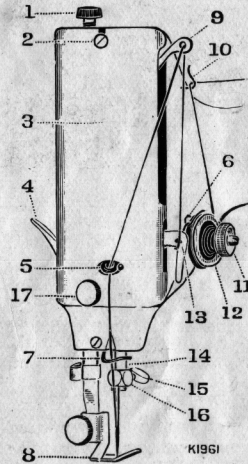
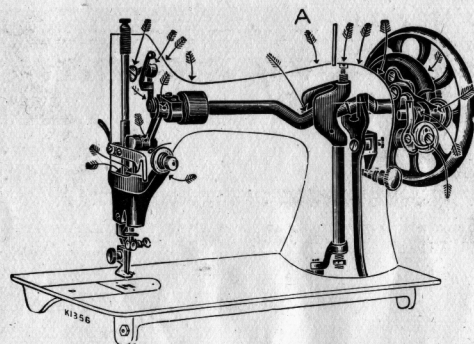

Fig. 5.
Fig. 15.
(See Fig. 5).
Loosen the balance wheel and place a reel of thread on the spool pin. Pass the end of the thread through the wire guide (10, Fig. 5), then into the lower eyelet (5) of the thread guide from below, and into the notch (2) at its top. Now thread the bobbin by passing the thread through the hole in its left disc from the inside, and with the left hand press it on to the bobbin winder spindle (1) and hold. Then with the right hand, turn the small pulley (6) until the hole in the right disc of the bobbin is engaged by the pin in the spindle shoulder. Press the pulley against the ledge of the balance
Raise the take-up lever (9, Fig. 5) to its highest point by turning the balance wheel towards you, and lift the presser foot; then move the material back and to the left, and sever the threads by passing them over the thread cutter above the presser foot. Leave the ends of the threads a few inches long under the presser foot.
For ordinary family sewing it is seldom necessary to change the pressure on the material. If sewing fine silk or flimsy material, lighten the pressure by giving the thumb screw (1, Fig. 5) two or three turns upwards. If it be found necessary to increase the pressure, give the thumb screw a few turns downwards.
All moving parts in contact must be covered with a film of oil **and not allowed to become dry**. Oil should always be applied at the points indicated by arrows in Figs. 15 and 16, a drop of oil being sufficient at any place. To oil the needle-bar mechanism, remove the face plate (3, Fig. 5) by unscrewing the knurled screw (17, Fig. 5) and loosening the small screw (2, Fig. 5). **It is most important that oil should be applied at the point marked "A" (Fig. 15) when the take-up lever (9, Fig. 5) is at its lowest point.** When oiling, insert the oil can spout well into the oil holes. Apply a drop of oil to the small piece of felt lubricating the oscillating hook and to the rollers at the right of the hook shaft. There are also two holes in the hand attachment to which oil should be applied occasionally.
The thread take-up spring (6, Fig. 5) being broken.
**Stitches Looping.**—This is regulated by the tensions (see page 12). See that both the bobbin case and the needle are properly threaded, and that the thread used is of good quality and the correct size for the needle (see Table on inside of back cover). See that the thread take-up spring (6, Fig. 5) is not broken.